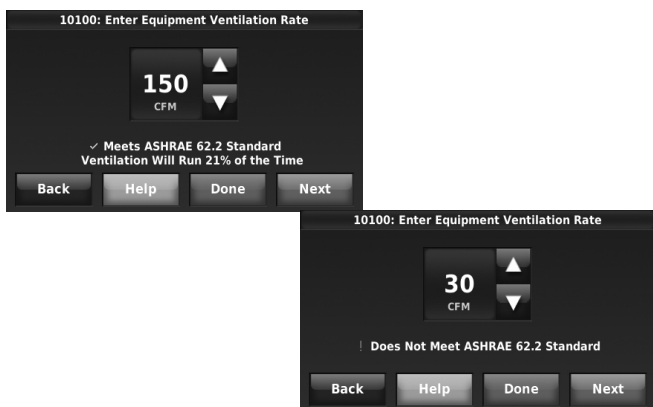

Fig. 253.
6. If ASHRAE was selected for ISU 10050, enter the Equipment Ventilation Rate (CFM). Be sure this setting corresponds with the actual ventilator speed. This setting determines how often the ventilation equipment will operate to meet the ASHRAE 62.2 Standard. The thermostat will indicate the following based on the Equipment Ventilation Rate, Square Footage and Number of Bedrooms. See Fig. 253.